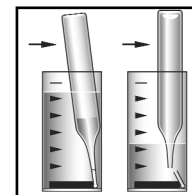

Figure 3
4. Place the Vacu-vial ampoule, tip first, into the sample cup. Snap the tip. The ampoule will fill leaving a bubble for mixing (fig. 3).